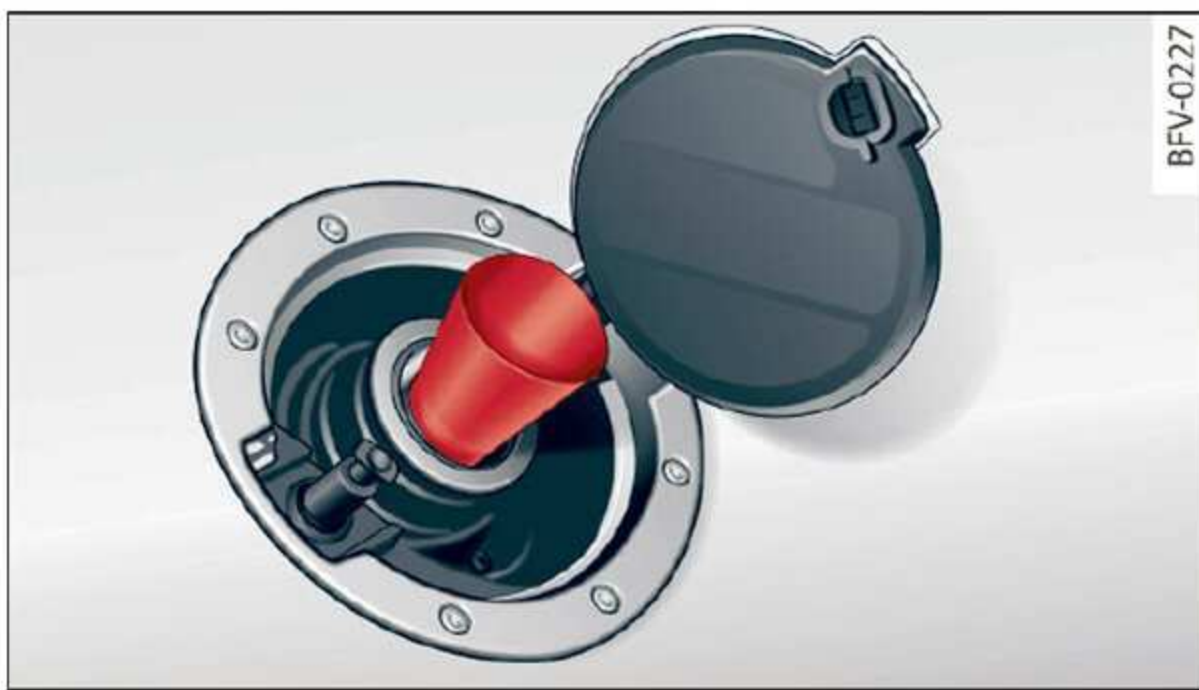

Fig. 169 Fuel tank filler neck with the mounted funnel
- ▶ Insert the funnel into the fuel filler neck all the way until it stops ⇒ *fig. 169.* Make sure that the